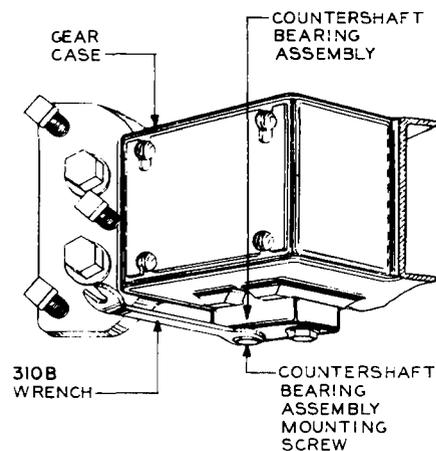

Fig. 11 – Method of Removing Countershaft Bearing Assembly
3.31 On 152- and 161-type interrupters, remove the countershaft bearing assembly by loosening the countershaft bearing assembly mounting screws with the 310B offset wrench as shown in Fig. 11 and withdraw the countershaft bearing assembly from the gear case. On 166-type interrupters, remove the gear case from the countershaft assembly using the KS-6854 screwdriver.